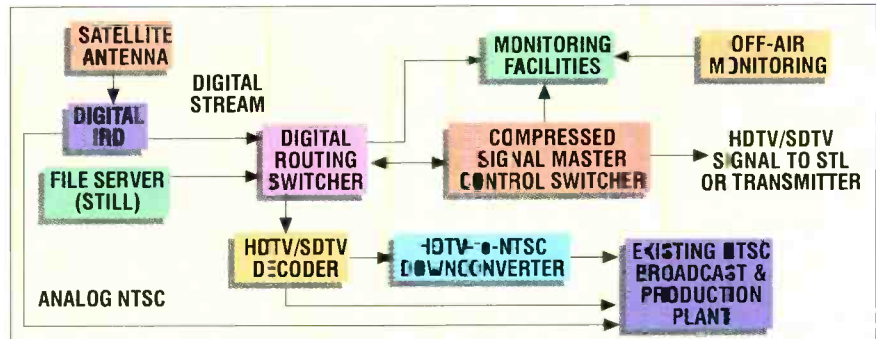

Figure 1. Block diagram of a minimal ATV implementation that provides for limited local insertion.
1. *Minimal DTV.* Under this plan, as illustrated in Figure 1,¹ local stations simply pass-through DTV signals and provide limited local insertion. Local insertion is one of the unresolved issues for DTV implementation. Considerable discussion has taken place over how the MPEG-2 signal can be made to support the logo supers and other effects that have become commonplace in television. Under the minimal DTV scenario, no local production of widescreen HDTV would be attempted.